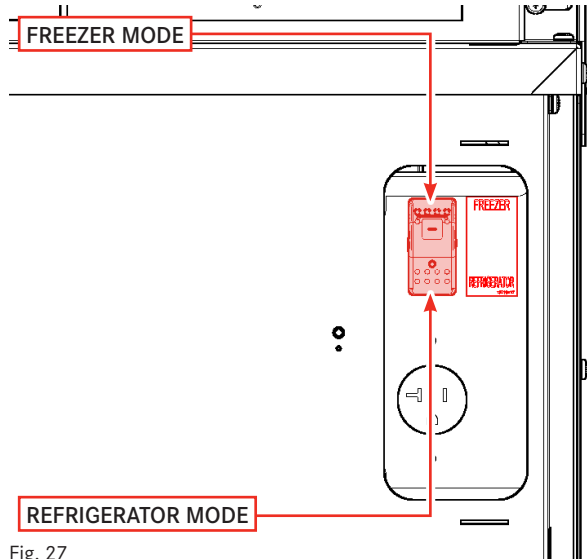

Fig. 27
3. Locate toggle switch on electrical box inside of toggle switch access compartment (Fig. 27). Toggle switch to UP position for freezer mode, and to DOWN position for refrigerator mode.